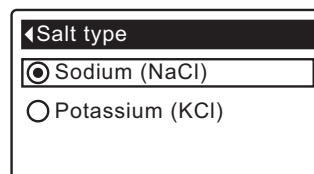

FIG. 33
5. Press the SELECT (O) button to display the Salt type menu (See Figure 33).
6. If the desired salt type already has a black dot next to it (See Figure 33), go to Step 7. Otherwise, press the softener's DOWN (▼) or UP (▲) buttons to scroll to the other salt type, then press SELECT (O) to choose it.
7. Press the SELECT (O) button. The display will go back to the Salt settings menu.